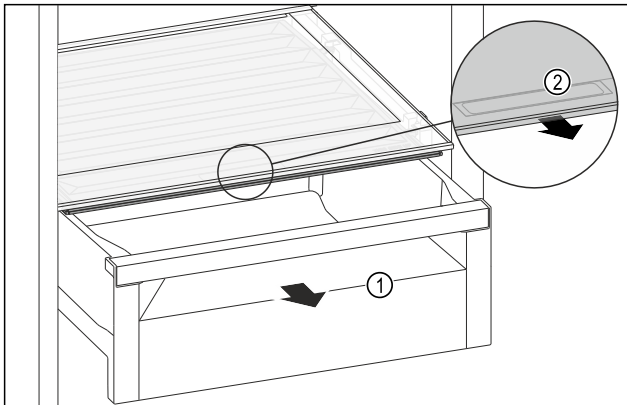

Fig. 124
- ▶ Pull out the drawer Fig. 124 (1).
- ▶ Grasp the recessed grip Fig. 124 (2) on the compartment lid and pull the compartment lid forwards at the same time.